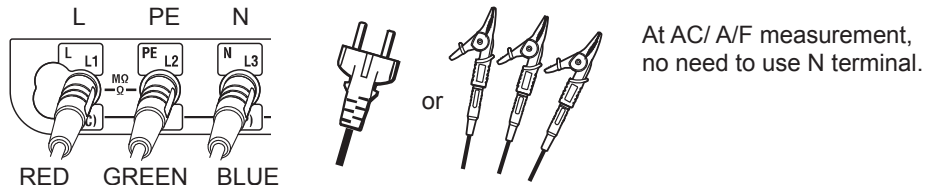

Fig. 11-5 For RCD test
(1) Press the Power switch and turn on the instrument. Turn the rotary switch and set it to the RCD position.
(2) Connect the test lead to the instrument. (Fig. 11-5)